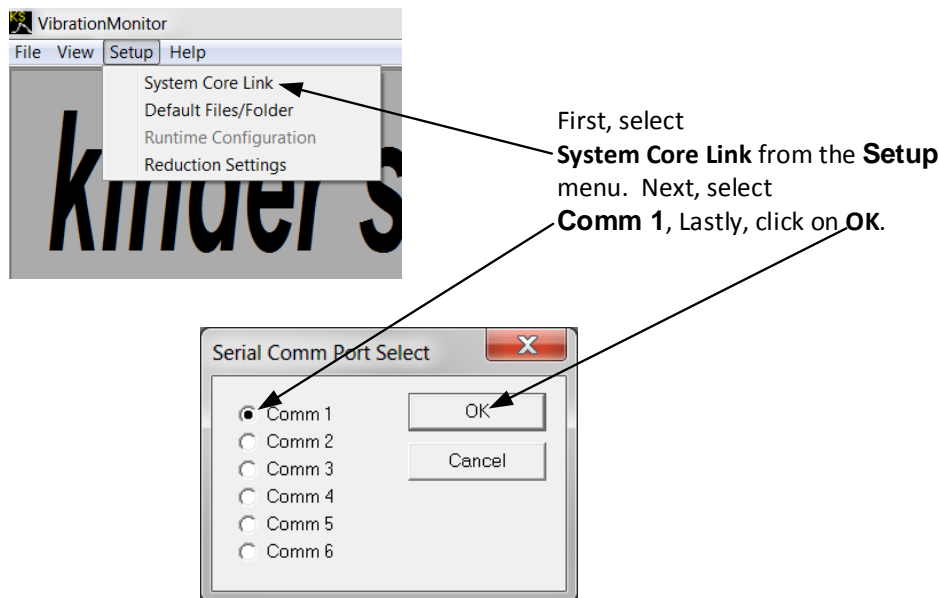

Figure 2-2. Selecting the Comm Port
2.1.1 Setting the Comm Port You must select a Comm port in order for the software to communicate with the hardware you just installed. Setting the Comm Port is accomplished using the **Setup** pull-down menu. Click on **Setup** then **System Core Link**. Select **Comm 1** and Click **OK**. This is shown in Figure 2-2.
5. Make sure a Comm Port is selected (Figure 2-2).